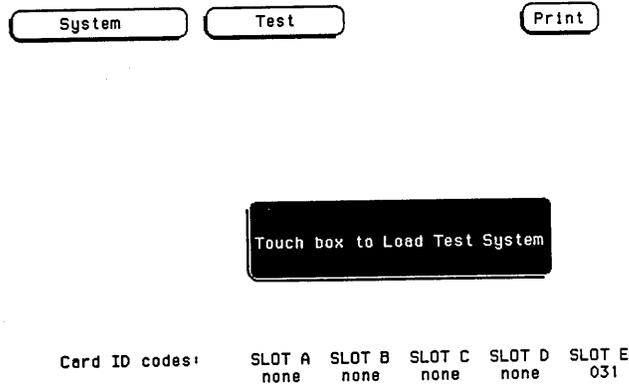

Figure 6-3. Load Test System
- c. Touch box to load Test System. See figure 6-3.